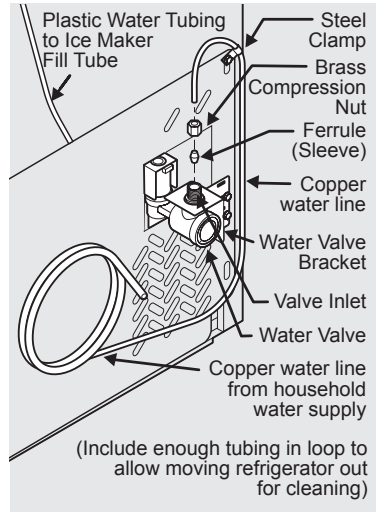

Figure 1
4. **If you use copper tubing** - Slide brass compression nut, then ferrule (sleeve) onto water supply line. Push water supply line into water valve inlet as far as it will go ( $\frac{1}{4}$ " / 6.4 mm). Slide ferrule (sleeve) into valve inlet and finger tighten compression nut onto valve. Tighten another half turn with a wrench; DO NOT overtighten. See Figure 1.